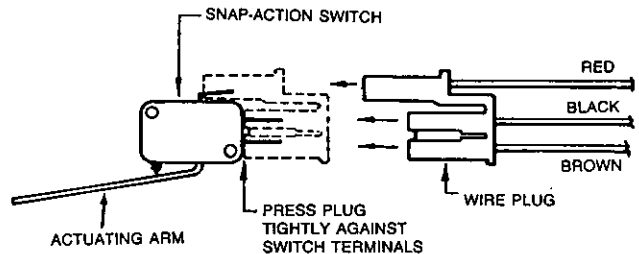

FIGURE 71
3. Press each 3-wire plug assembly into the 3-terminals located on the switch. Be sure that the plug is pressed tight against the switch. See Figure 71.